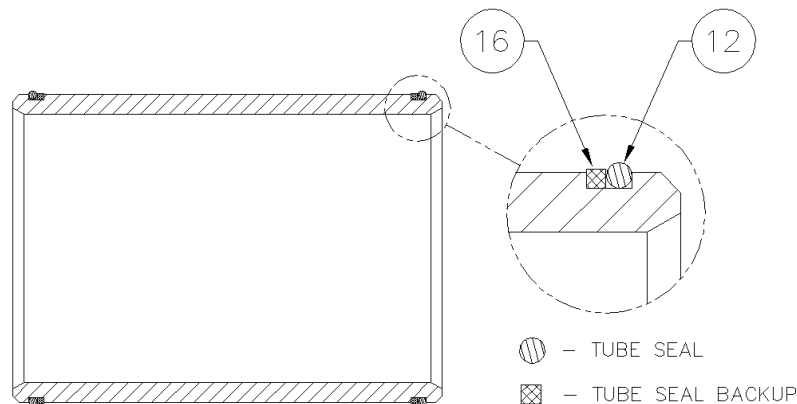

Figure C-2
2. Install the tube seal (12) (Figure C-2) and "square" tube seal backup (16) on each end of the actuator tubes (3) (Figure C-13). Be sure that the "square" tube seal backup ring is toward the inside of the tubes at both ends as shown. Press all rings firmly into the grooves. Repeat this procedure for the other tube.